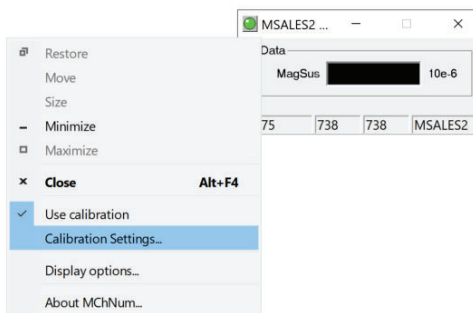

Figure 4-15 Open Calibration Settings window from MChNum
2. ☐ In the **Acquisition** panel, turn **Time** sampling **On**. Left click on the Green LED  in the upper left corner of the **MChNum** window and click on **Calibration Settings...** (Figure 4-15).
7. ☐ Enter **5000** (or the value stamped on the puck) as the **Reference** for the **Second Point** in the Calibration Settings window (**Figure 4-15**). Click **Sample....** Wait until the bar loads. After loading, a new value will appear in the **Value** for the **Second Point**.